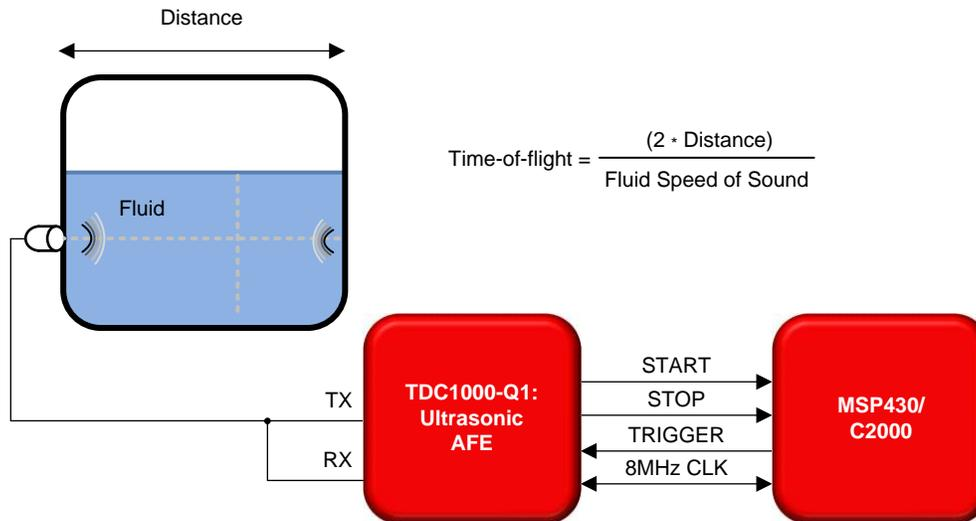

Figure 6. Fluid Identification / Concentration Using Ultrasonic
Now, let's add to that level application, and see how fluid identification (ID) works. Fluid ID is the same as fluid level detection, except that the sensor is typically mounted on the side of the tank, as shown in Figure 6.